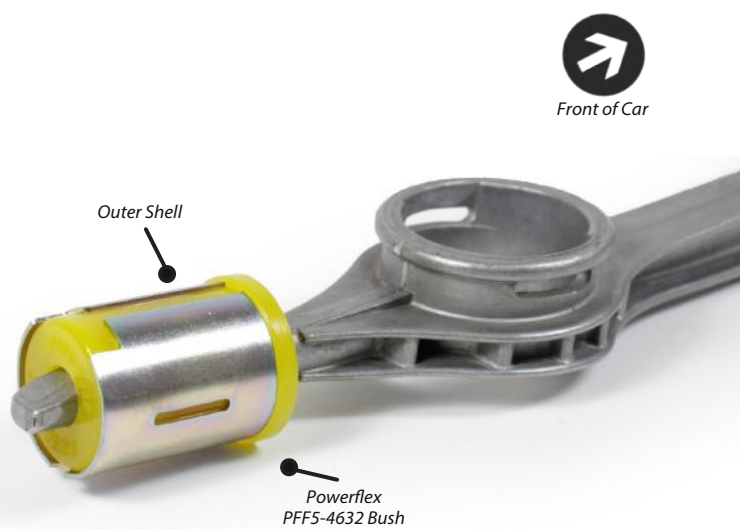

Figure 2 - PFF5-4632 Fitted Image
4. Apply some of the supplied grease to the shifter fork and then fit the bush in the orientation as shown in Fig 2, with the flange of the bush facing the front of the vehicle.